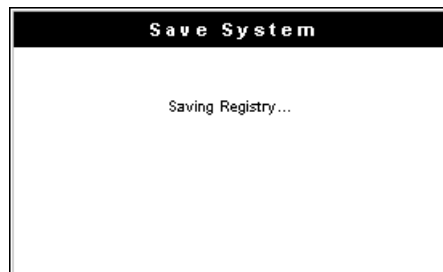

Figure C-4. Save System
- 1 Tap **Start > Programs > Utilities > Save System** to display the *Save System* window and begin the process (Figure C-4).